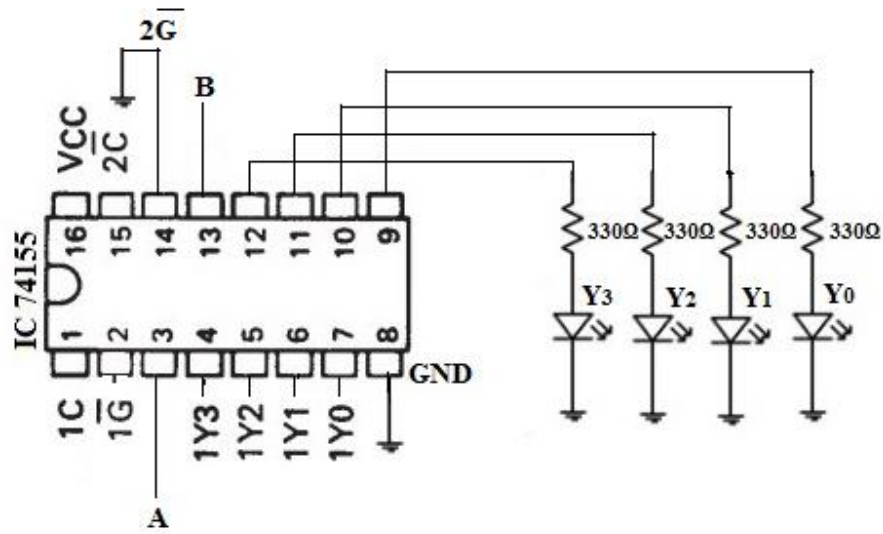

Figure 7.7 Circuit diagram for second 1:4 Demultiplexer of IC74155
8. Repeat the procedure for the second 1:4 demultiplexer and 1:8 multiplexer of IC74155 by making the connections as shown in figure 7.7 and 7.8.